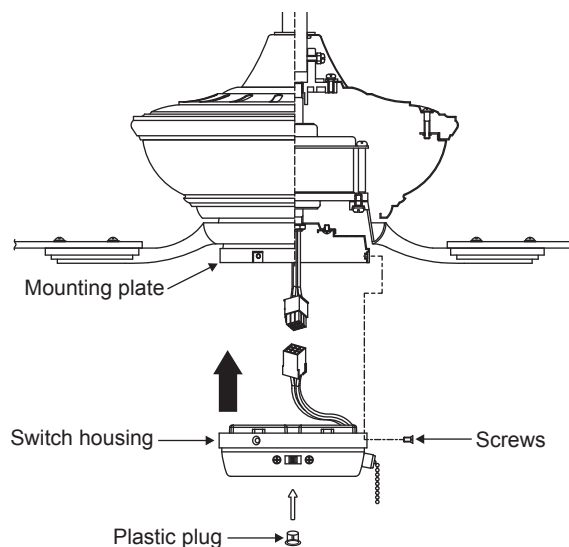

Figure 20
Step 2. Attach the plastic plug to the switch housing. (Fig. 20)
Step 3. Install the light kit onto the mounting plate with 3 screws provided. Be sure to tighten all screws. (Fig. 20)